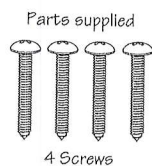

Figure 6B
5. Secure the drawer with the 4 screws supplied. See Figure 6B.